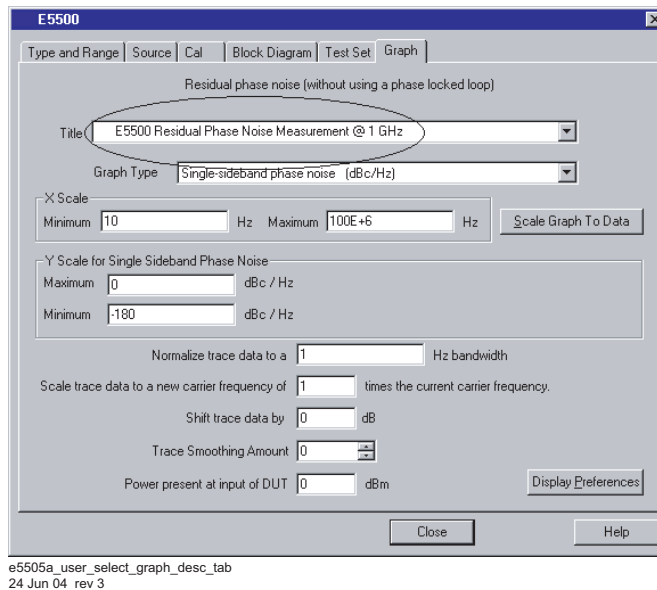

Figure 168 Select graph description on graph tab
- 13 Enter a graph description of your choice (E5500 Residual Phase Noise Measurement @ 1 GHz, for example). See Figure 168 on page 233.